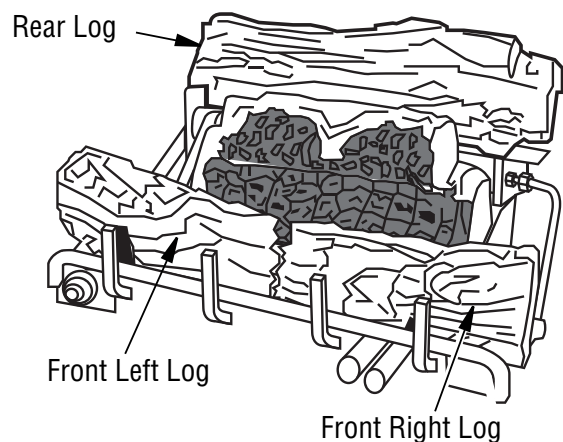

Figure 26 - Installing Logs
3. Place front left and right logs and rear log as shown in **Figure 26**.